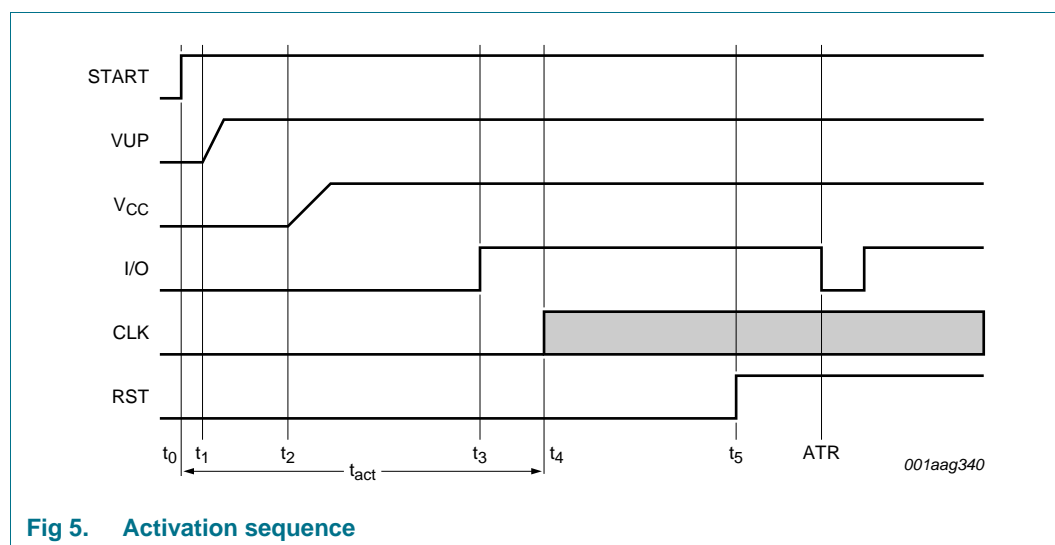

Fig 5. Activation sequence
1. The internal oscillator changes to its high frequency ( $t_0$ , see Figure 5).